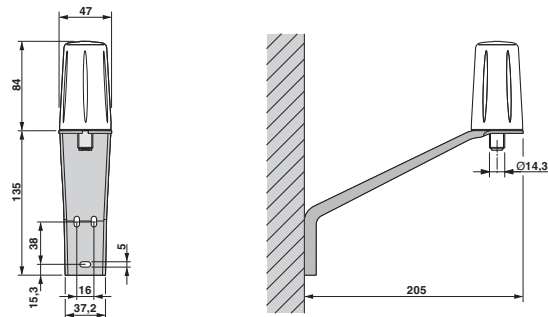

Figure 5 TC ANT MOBILE WALL 5M, wall mounting
- **Wall mounting:** Mount the mounting bracket. Use M5 machine screws or self-tapping screws. You can use the bracket as a drilling template (see Figure 5).